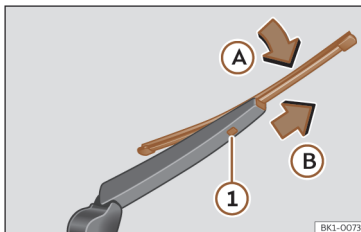

Fig. 180 Changing the rear wiper blade
- Rotate the blade lightly >>> **Fig. 180** (arrow .
- Hold down the release button ① while gently pulling the blade in the direction of arrow ②.
- Insert a new blade of the **same length and type** in the rear wiper arm in the opposite direction to the arrow ② until button ① hooks into place.